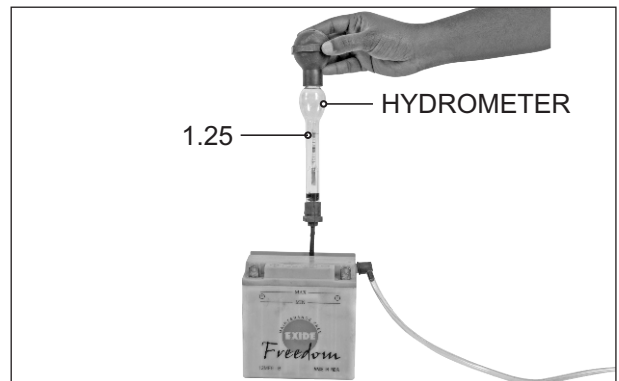

Fig. 5.67
- Check the electrolyte specific gravity reading using the hydrometer. (Fig. 5.67) If the reading is not within the specified limit, it indicates that the battery needs charging.